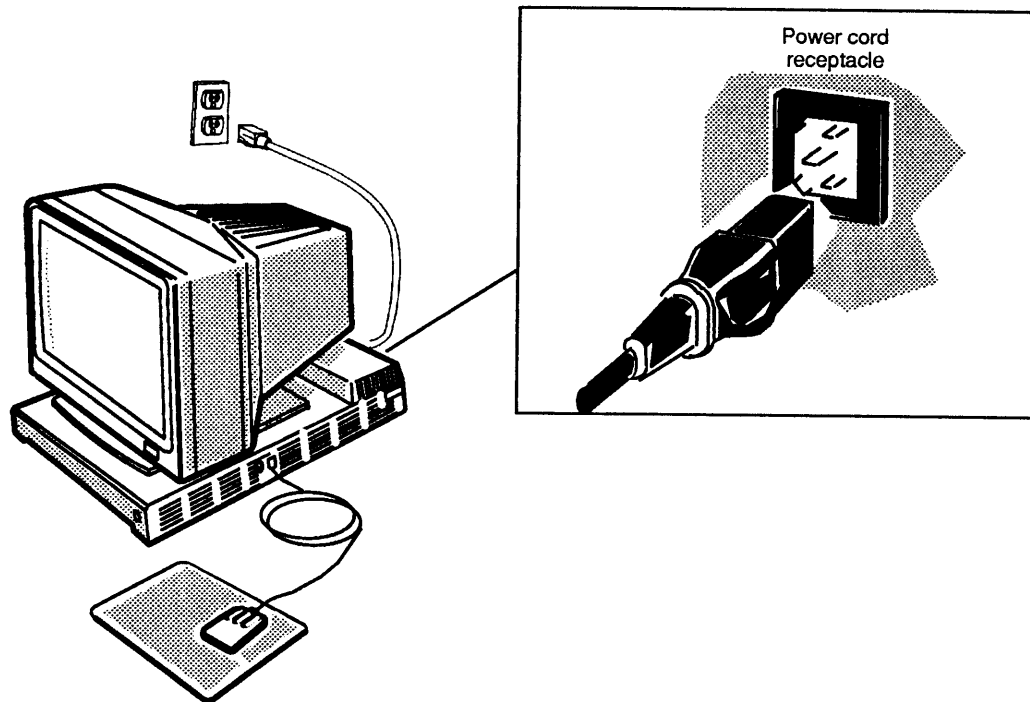

Figure 2-21 Connecting the Computer Unit Power Cord to the Outlet and the Receptacle
3. Plug the male end of the power cord into an ac outlet, as shown in Figure 2-21.